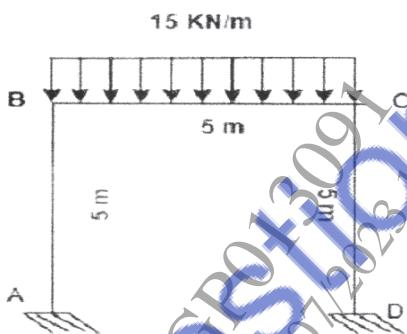

Figure 7
- b)** Explain stiffness and flexibility and write elements of displacement matrix for the frame shown in figure 7. [6]